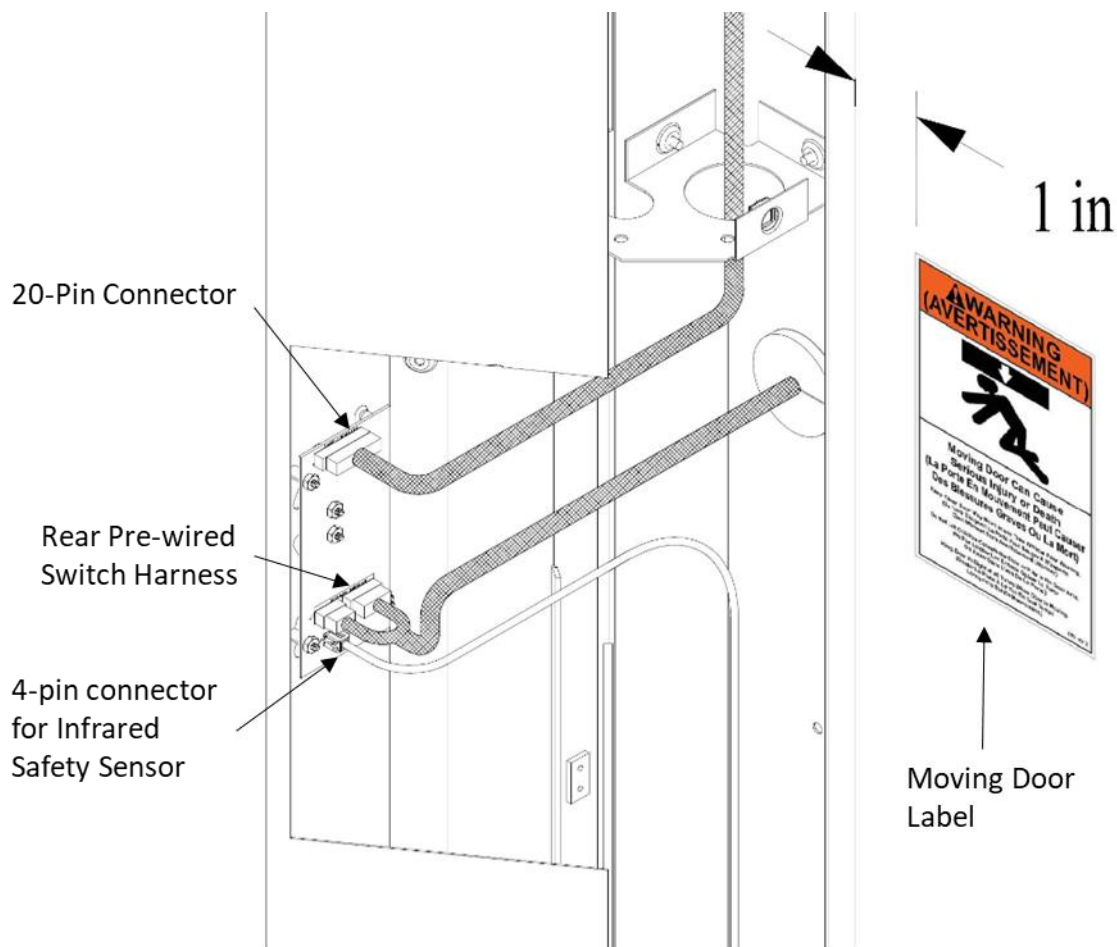
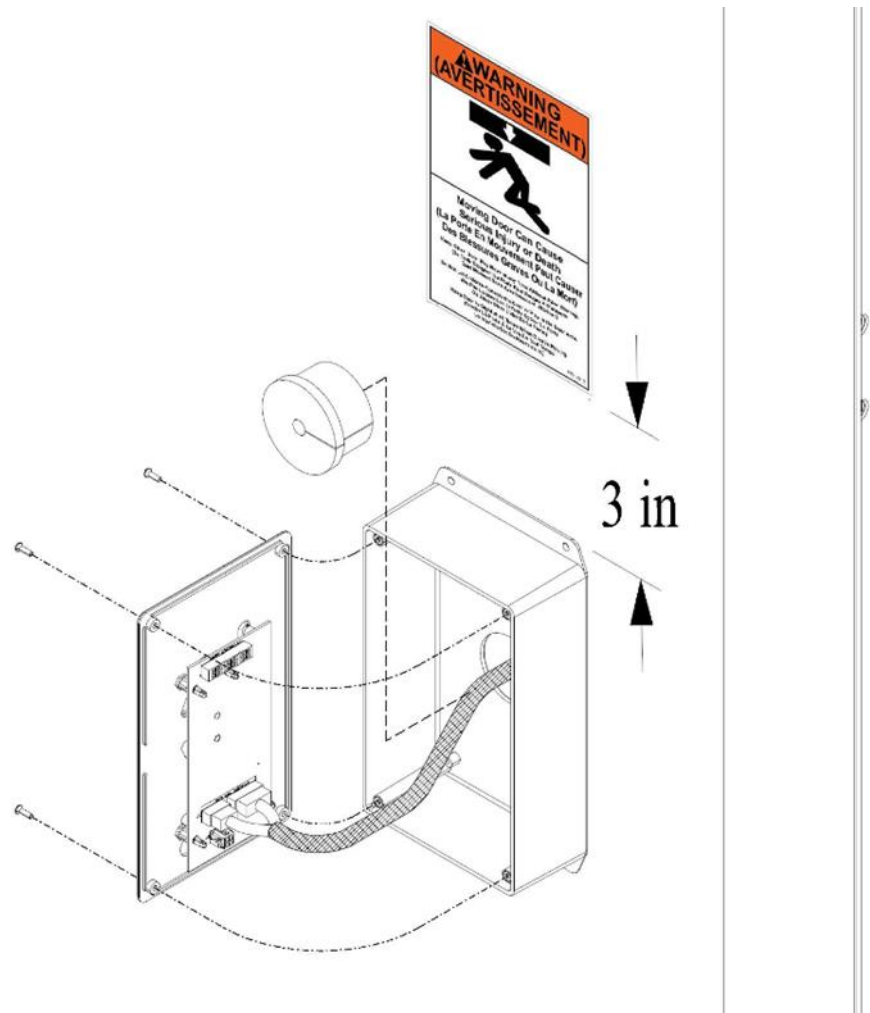

Figure 10: Front Switch & Infrared Safety Sensor Connection
Figure 16: Installation of Interior Switch Kit
10. Plug the harness into the 4 pin connection on back of the smart switch. At this point, the Infrared Safety Beams will be connected. Refer to Figure 10 for more details as to the location of these connectors.
The front facing RollSeal Smart Switch is built into the front track. There is a harness with a twenty pin connector proceeding out from the right hand side of the controller enclosure. That harness will run down the right track and plug into the back of the switch card. This will power the switch as well as allow the Indicator LEDs to function as designed. Refer to Figure 10 for more information.
1. Drill a 1 ¾ inch through hole using the 1 ¾ inch hole in the back of the right track four feet up from the floor as a guide as shown in Figure 10.
6. Refer to Figure 16 for more information on installing and connecting the interior switch kit.
There are two labels that are required to be field installed after the door has been secured to the clear opening. The label that has to be applied is the Moving Door Label shown in Figure 17. There are specific locations that this label must be installed. There must be a label on the front of the door three inches to the right of the switch as shown in Figure 10 and one on the inside of the box three inches above the rear switch as shown in Figure 16.